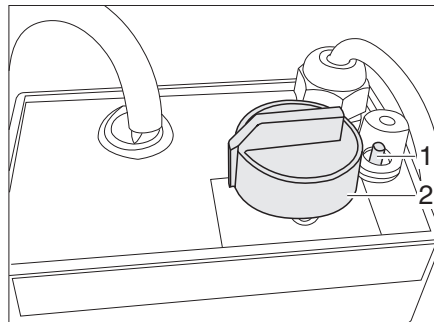

Fig. 301 Regulator for electrical floor warming/bed warming unit
- Turn the control knob (Fig. 301,2) to the desired heating level.
- Turn the control knob (Fig. 301,2) to the setting "0".
If the regulator is overloaded, the overload protection is actuated. The pin (Fig. 301,1) will trip.
- Press in the pin (Fig. 301,1) at the overload protection when the regulator has cooled down.